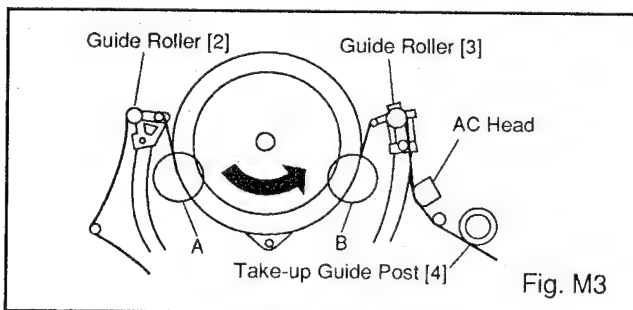
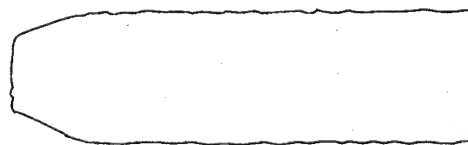

Fig. M3
Fig. M7
1. Play back a blank cassette tape and check to see that the tape runs without creasing at Guide Rollers [2] and [3], and at points A and B on the lead surface. (Refer to Fig M3 and M4.)
2. If creasing is apparent, align the height of the guide rollers by turning the top of Guide Rollers [2] and [3] with a Guide Roller Adj. Screwdriver. (Refer to Fig. M3 and M5.)
3. Check to see that the tape runs without creasing at Take-up Guide Post [4] or without snaking between Guide Roller [3] and AC Head. (Fig. M3 and M5)
3. Play back the Gray Scale on the Alignment Tape (FL6NS8). Adjust the height of Guide Rollers [2] and [3] (Fig.M3) watching the oscilloscope display so that the envelope becomes as flat as possible. To do this adjustment, turn the top of the Guide Roller with the Guide Roller Adj. Screwdriver.
4. If the envelope is as shown in Fig. M7, adjust the height of Guide Roller [2] (Refer to Fig.M3) so that the waveform looks like the one shown in Fig. M9.
5. If the envelope is as shown in Fig. M8, adjust the height of Guide Roller [3] (Refer to Fig.M3) so that the waveform looks like the one shown in Fig. M9.
6. When Guide Rollers [2] and [3] (Refer to Fig.M3) are aligned properly, there is no envelope drop either at the beginning or end of track as shown in Fig. M9.
Note: Upon completion of the adjustment of Guide Rollers [2] and [3] (Refer to Fig. M3), check the X Value by pushing the Tracking Control Up or Down buttons alternately, to check the symmetry of the envelope. Check the number of pushes to ensure center position. The number of pushes UP to achieve 1/2 level of envelope should match the number of pushes DOWN from center. If required, redo the "X Value Alignment."